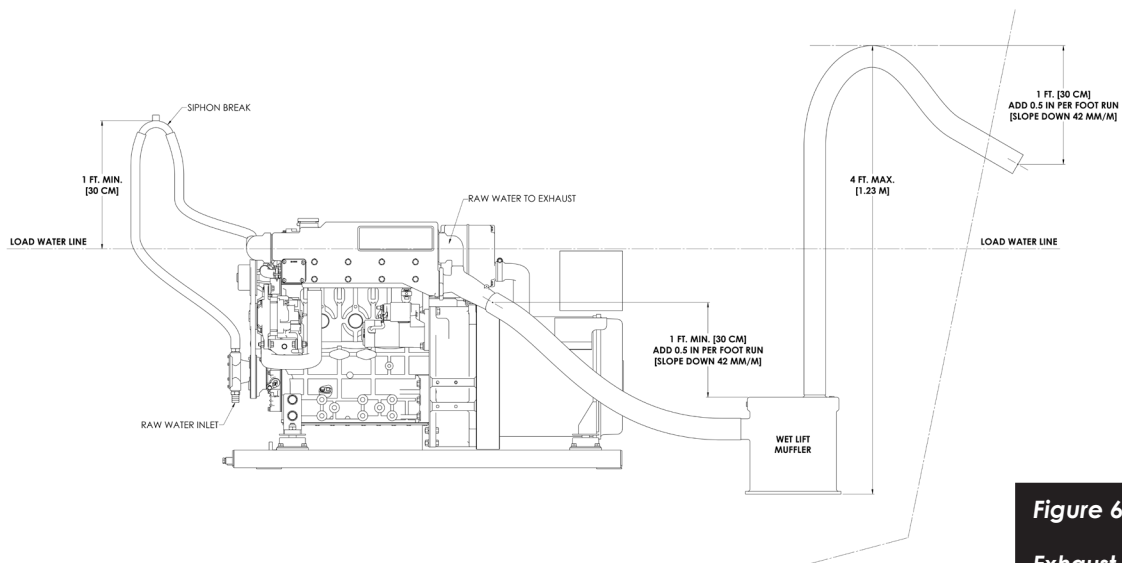

Figure 6:
7. You will need a siphon break if your generator sits so low that the point where the cooling water is injected into the exhaust is less than a foot above the waterline. See Fig 6.